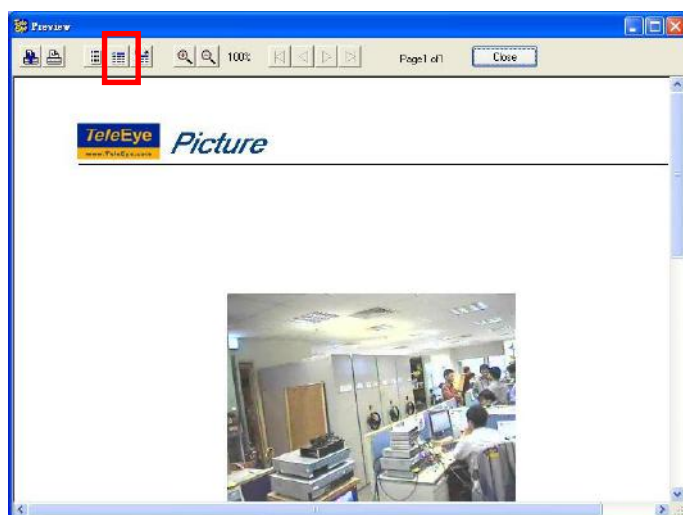

Fig 11.2e
Step 3: Click **[100%]**  icon to preview the picture in 100% A4 paper size as shown in **Fig 11.2e**.